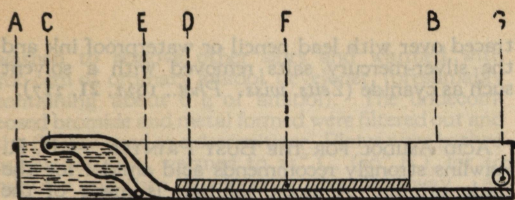

Fig. 1
**RAPID WASHING OF PLATES AND PRECIPITATES.**—L. Lumière suggests the following distinctly novel and effective method of washing plates and precipitates by capillary attraction, diffusion and displacement, which should be of considerable interest to those who have to pay water bills. It is a well-known fact that a woven cloth acts as a syphon if hung over the edge of a basin, due to the capillary attraction in the interstices of the fibers. The nature of the fibers, the closeness of the weave and the viscosity and surface tension of the liquid naturally play an important part in the rapidity of the flow; but with both paper and cloth it is practically constant for a given height of fall, which with cloth is about 18 cm. Lumière suggests a metal dish made as shown in Fig. 1, in which A is the dish turned up at one end to form a cover B, practically a little reservoir. At the A end is also a reservoir formed by the curved piece C. On the bottom of the dish is placed a sheet of glass D, over which is placed the cloth E, which must be long enough to reach to the bottom of the two reservoirs, and G is a waste pipe.